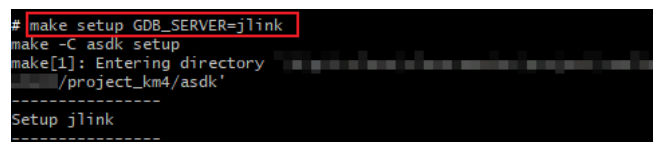

Figure 1-10 KM4 J-Link setup under Windows
(2) Setup J-Link for KM4
- On the MSYS2 terminal, type **\$ make setup GDB_SERVER=jlink** command before selecting J-Link debugger, as Figure 1-10 shows.